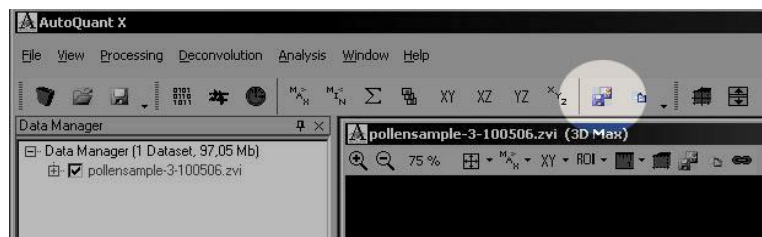

Figure 5. Save Current View button
5. Save the deconvoluted image stack as a maximum projection presentation in tiff file format using SAVE CURRENT VIEW button (Fig. 5). Save to Images/Mcbserver1 > Workshop06 and also to your USBstick.